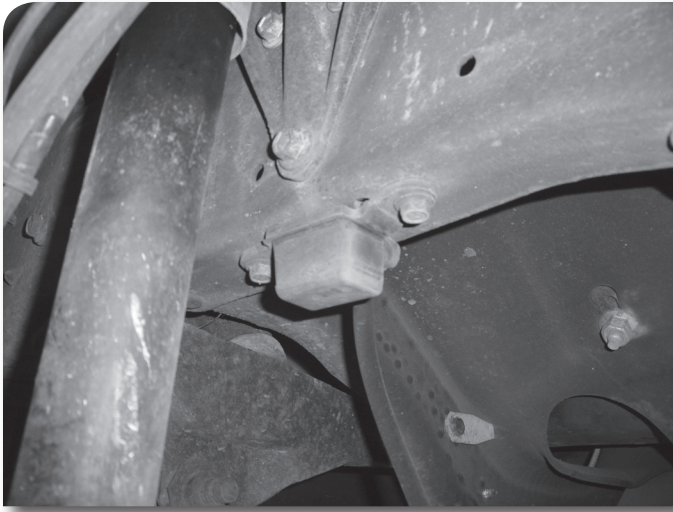
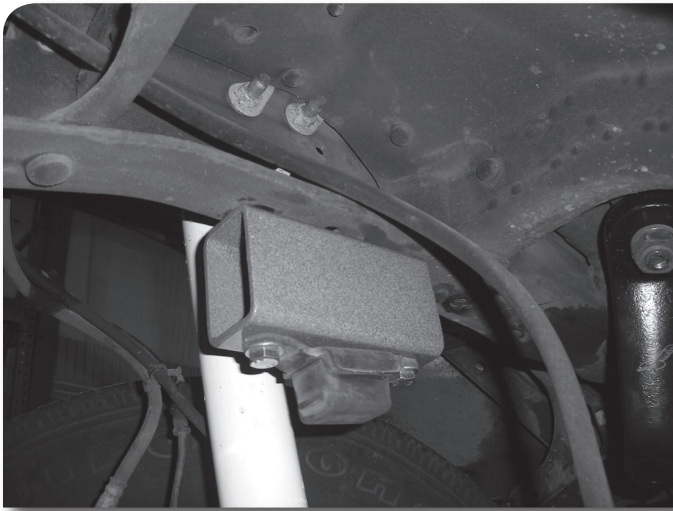

Figure 8
Figure 9
17. Locate and remove the factory front bump stops from the frame rails. **Figure 8** Locate the provided rectangle bump stop spacers and place between the factory bump stops and the frame rail. Align the holes in the bump stop and spacer with the original frame mounting holes and fasten with the provided 10mm x 110mm bolts and washers into the captive nuts in the frame. **Figure 9** Torque bolts to 30 ft-lbs.